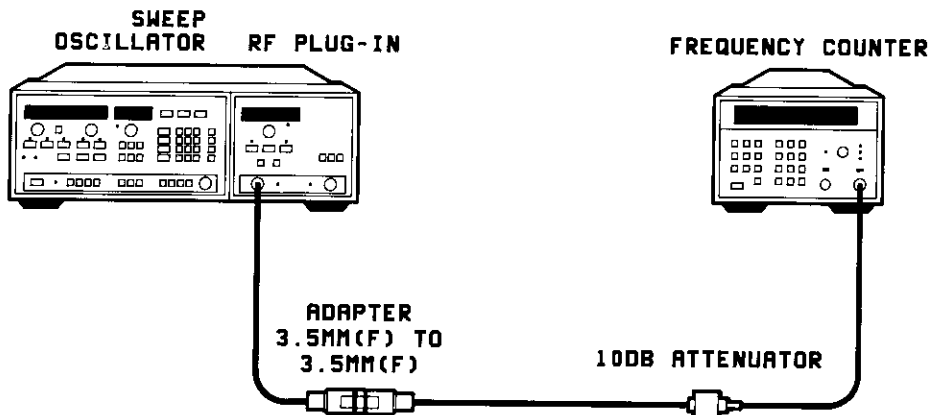

Figure 3-6. Front Panel FREQ CAL Equipment Set Up
1. Connect the equipment as shown in Figure 3-6. Turn on the instruments and let them warm up for at least 30 minutes. Ensure that the RF output power is on, either by instrument preset or by using the RF on/off key.